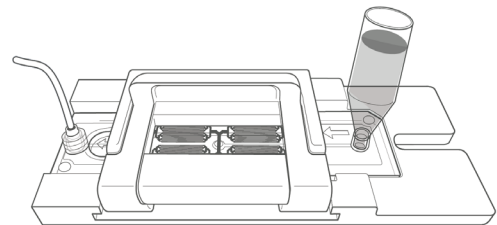

Fig. 33. 10 mL of prepared blood sample added to Inlet Funnel on Celselect Slide Station.
1. Add 10 mL of Sample to Inlet Funnel of each Celselect Slide Station (Figure 33).